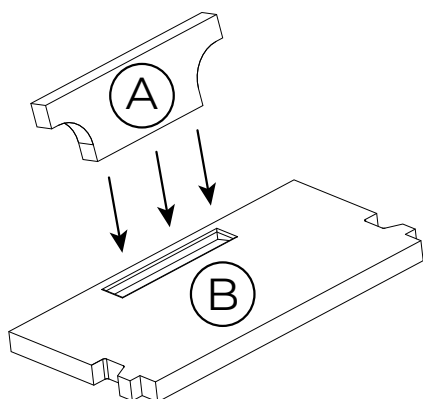

Fig. 7.6
Note: the upper baffle (A) is located in a groove of the lower baffle (B) as in Fig. 7.6